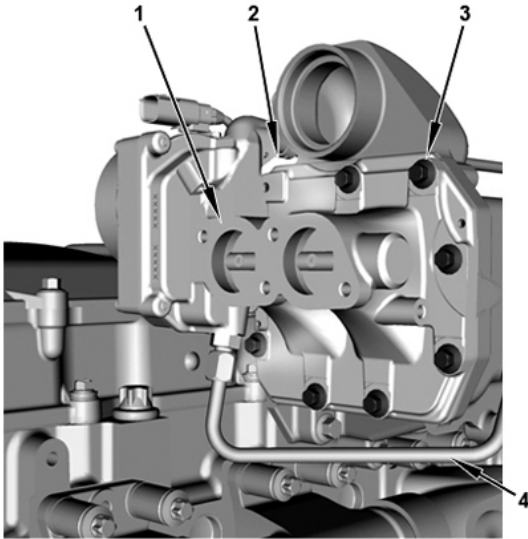

Figure 20 EGR Valve
25. Remove the EGR valve (1), remove EGR valve coolant return tube assembly, and position out of the way (2). Remove seven heat-resistant bolts (3) and remove two heat-resistant bolts (3) (Figure 20).